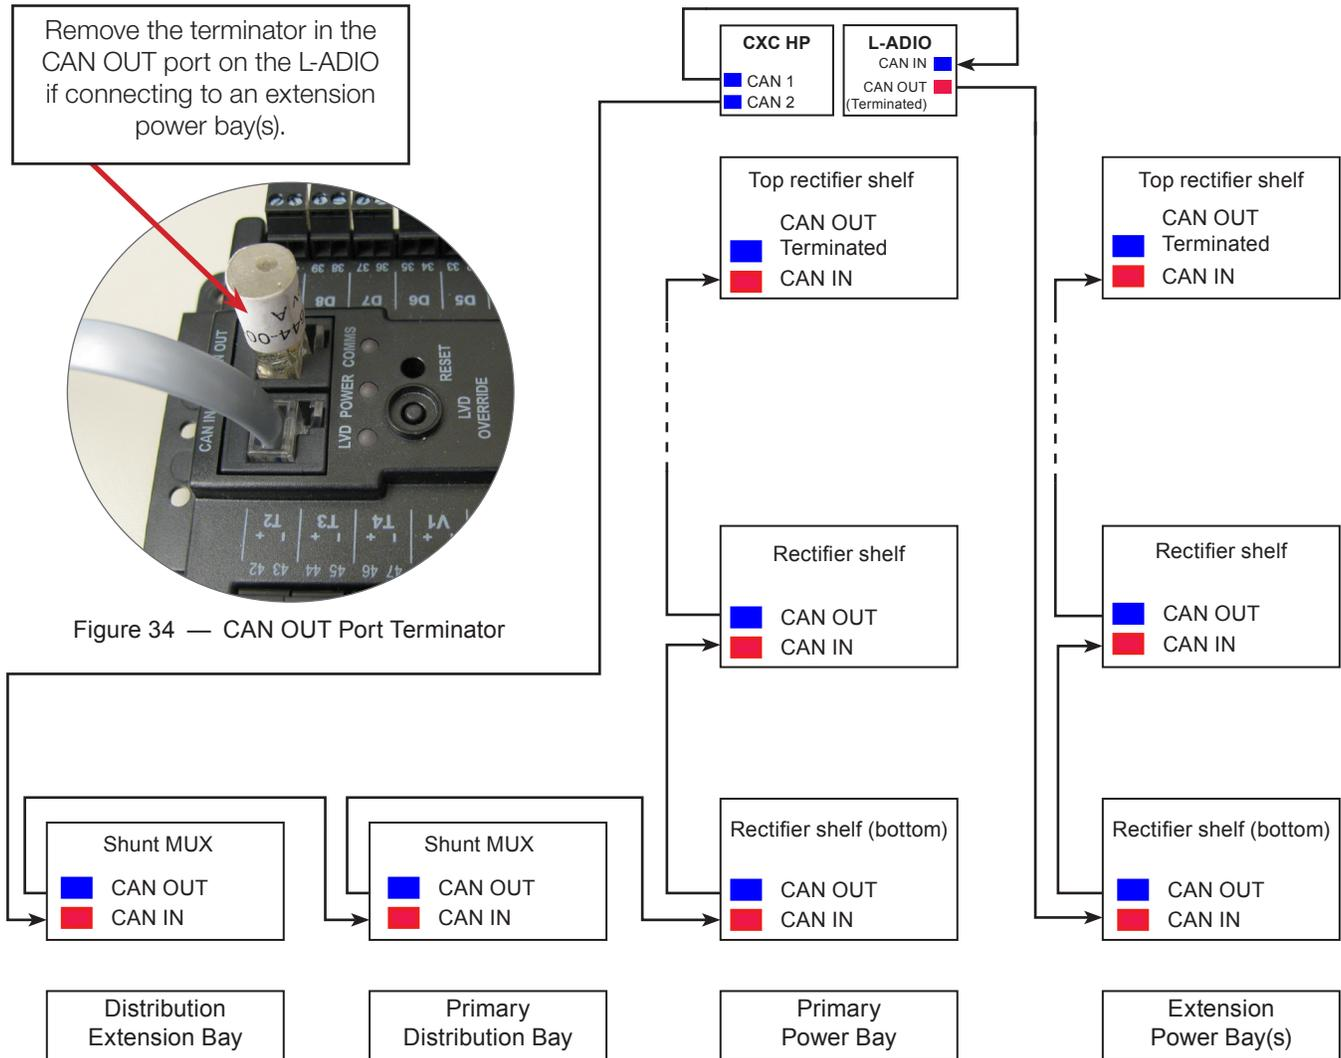

Figure 35 — Controller, CAN Bus cabling 4.0kW Power Bay
In your existing system, the CAN Bus is terminated at the highest shelf in the outermost power bay. (See Figure 35 for the sequence of CAN bus cabling)
If optional shunt mux are installed, the existing outer distribution bay is connected by a CAN bus cable to the controller. The CAN bus cable is then daisy-chained to shunt mux in the next distribution bays—see Figure 35.
5. Daisy chain the remaining shunt mux as shown in Figure 35 using cables from the cable kit where necessary.